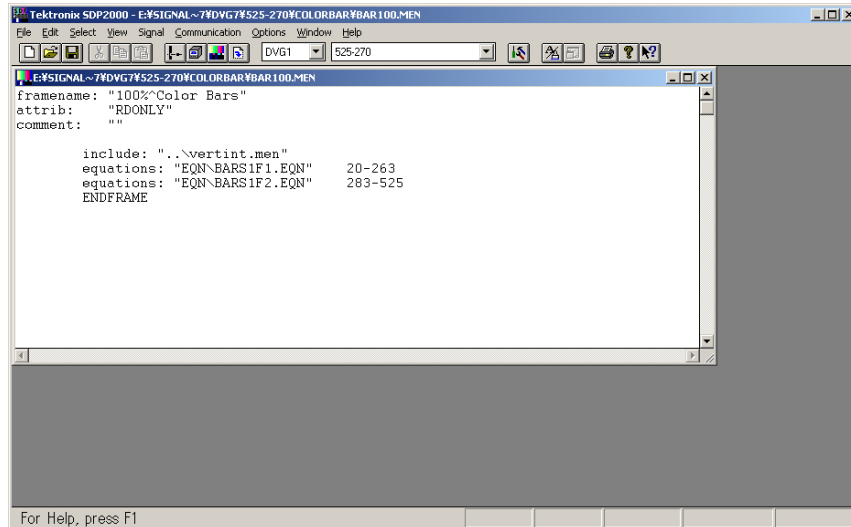

Figure 5 SDP2000 Window when Opened a MEN File
STEP 5 Select and double-click on a MEN file with the mouse. With this, a window for the MEN file opens in Application window of SDP2000. In this representation of the frame definition file, you can verify information of the test signal's frame configuration (that is, which test signal is assigned to what range of line numbers, etc.) (refer to Figure 5).